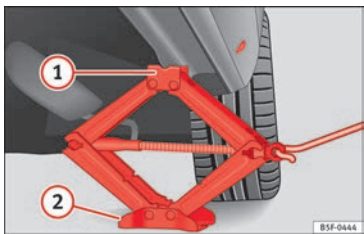

Fig. 83 Fitting the jack.
• Turn the jack* crank handle, located below the strut support point, to raise it until the tab ① » » » Fig. 83 is below the housing provided.
• Align the jack* so that tab ① “grips” onto the housing provided on the strut and the mobile base ② is resting on the ground. The base plate ② should fall vertically with respect to the support point ①.